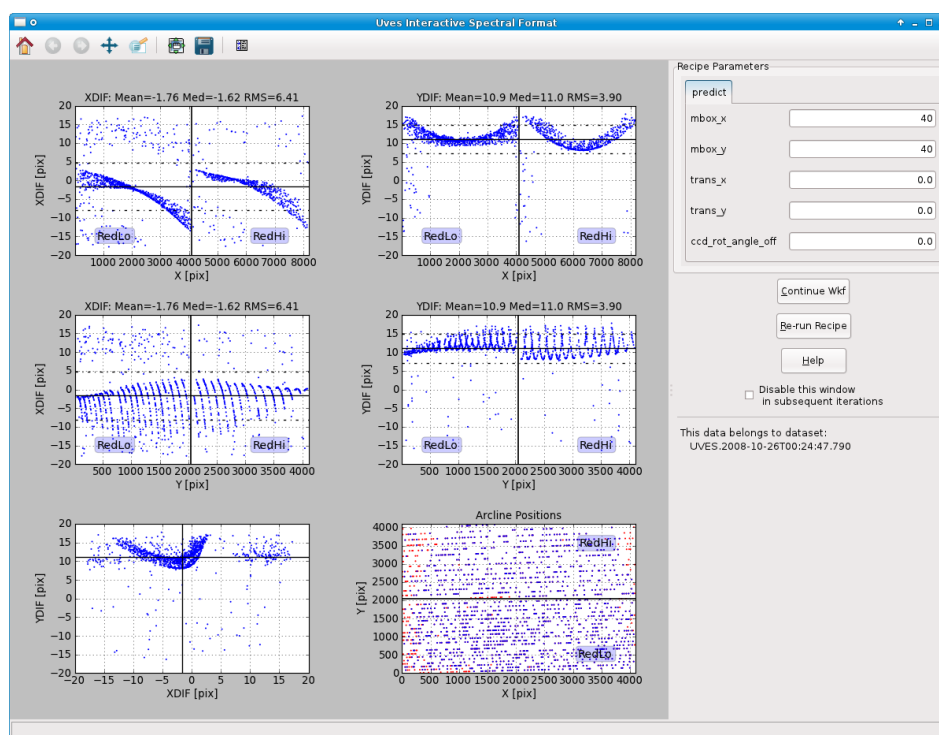

Figure 6.7: The interactive window for the Spectrum Locator actor for the first DataSet in the data supplied with Reflex 2.5..
6. `Spectrum Locator`: During the execution of the `Spectrum Locator` actor, an interactive window will appear as shown in Figure 6.7. The interactive window consists of six plots, five pipeline recipe parameters that may be changed, three buttons on the right, and a panel of buttons at the top-left. Help for each of these features may be accessed by leaving the mouse pointer for about one second over the plot/parameter/button for which information is required. Note that the recipe parameters are grouped via labels at the top of the “Recipe Parameters” box that may be left-clicked on to reveal the associated parameters.